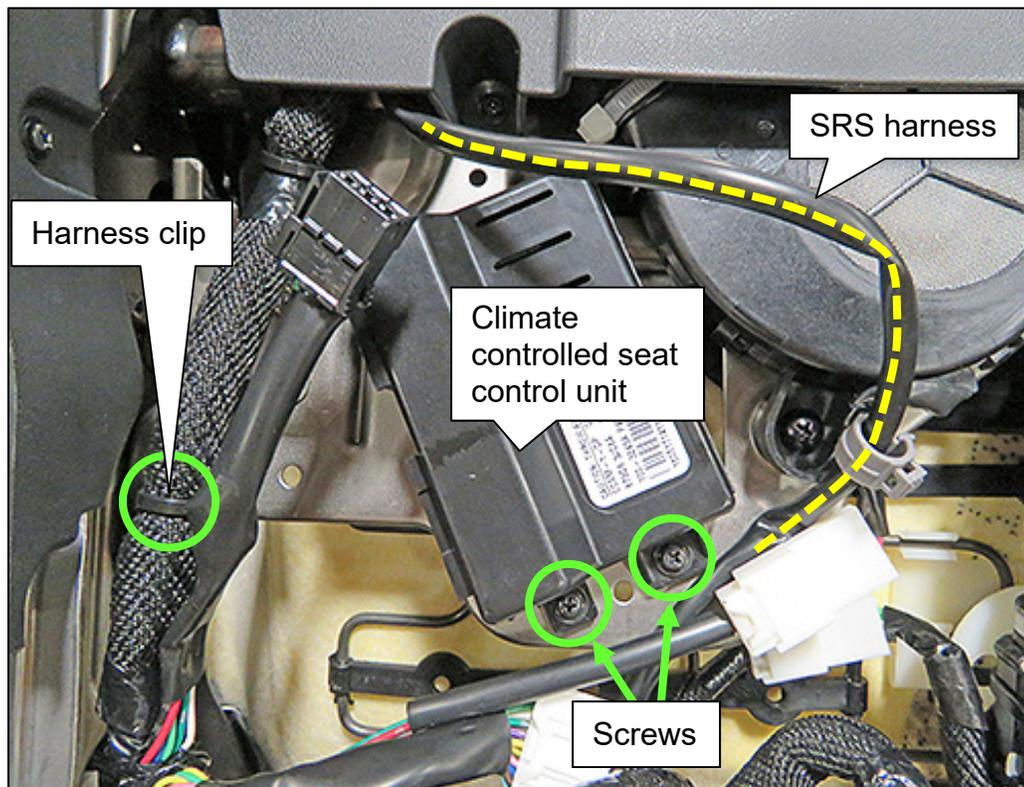

Figure 10
12. Move the SRS harness out of the way, as shown in Figure 10.
13. Detach the harness clip shown in Figure 10 from the seat frame.
14. Remove the two (2) screws (Figure 10) retaining the climate controlled seat control unit, and then remove control unit from the seat.